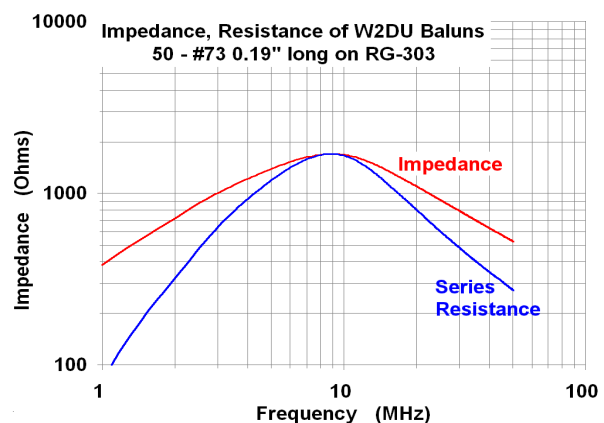

Fig 35 – A W2DU Balun (Measured Data)
- ♦ **Lossy Ferrite Choke Balun** Maxwell introduced the concept of passing a coaxial line through a string of lossy ferrite cores to form a common mode choke, a design which has come to be known as the W2DU balun. Maxwell's design consists of 50 Fair-Rite 2673002402 beads, 0.19" long and just big enough to fit over RG-303 coax (Fig 35). One of his experimental models used 300 beads, and measured 4500 +j3800 ohms at 4 MHz. Notice that his choke is resonant at about 8.5 MHz because that is where his #73 beads are resonant. A W2DU balun will be most effective on 40M, 30M, and 20M.
- ♦ 1) We are stuck with the resonant frequency of the bead used in the string. If the bead is inductive, the choke will be inductive, and nearly all commonly available beads are inductive in the HF spectrum. The exception is Fair-Rite #73 (see Fig 35), and the largest cable that fits through the largest #73 bead is RG-303.
- ♦ 2) As Figs 35 and 36 show, it takes a very large number of beads to achieve even modest choking impedance. The usual compromise is using too few beads, which results in insufficient choking impedance. The resulting common mode current can overheat the balun, often to the point of failure, and couple RX noise.